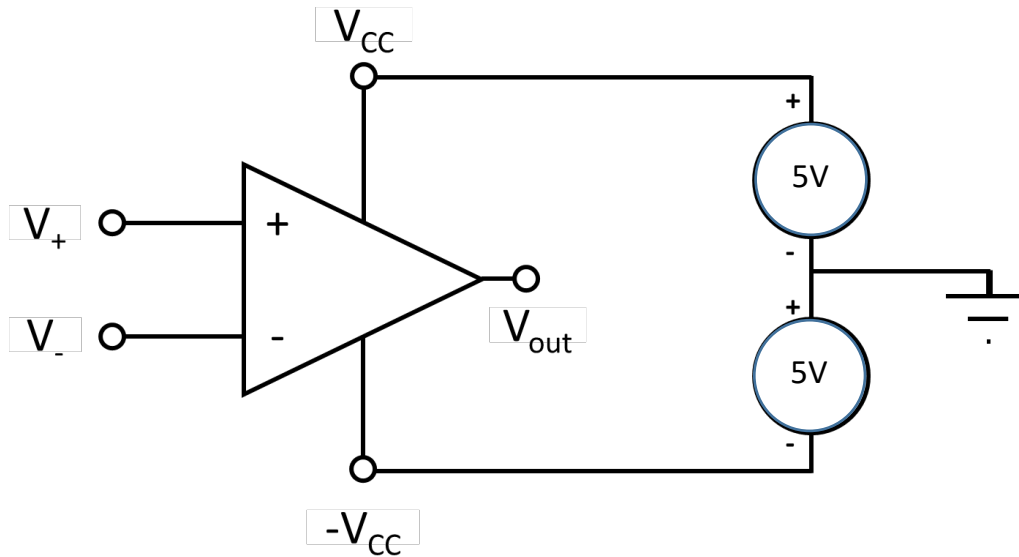

Figure 2: Op Amp with Dual Power supply connection shown
- All op amps require an external power supply to operate. This is represented by the vertical power lines leading from the op amp symbol (see Figure 2), but in most circuit diagrams it is implicitly understood and not explicitly drawn. In this studio, we will be using single as well as dual power supplies. Figure 2 represents the dual power supply configuration.